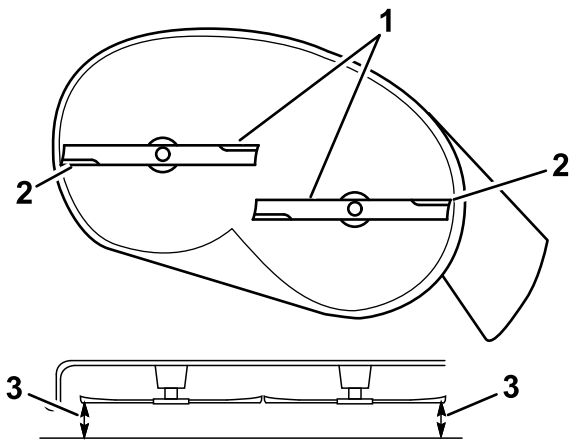

Figure 58
- Measure between the outside cutting edges and the flat surface (Figure 58).
4. After adjustment, check the front-to-rear slope again, continue adjusting the nut until the front blade tip is 1.6 to 7.9 mm (1/16 to 5/16 inch) lower than the rear blade tip (Figure 58).